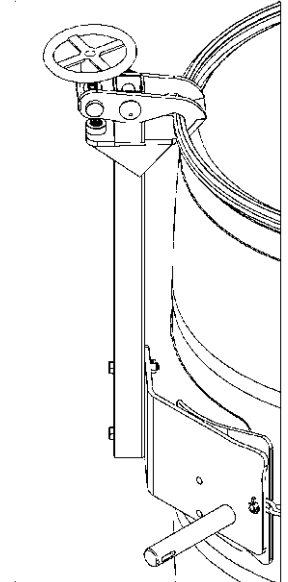

Figure 2.2
- To handle a 55-gallon plastic drum with suitable top rim, you **must** install either the Bracket Assembly or the Top Rim Clamp (Part # 4560M-P) (see figure 2.2). You can use the Top Rim Clamp to handle a 55-gallon plastic, steel or fiber drum with suitable top rim.